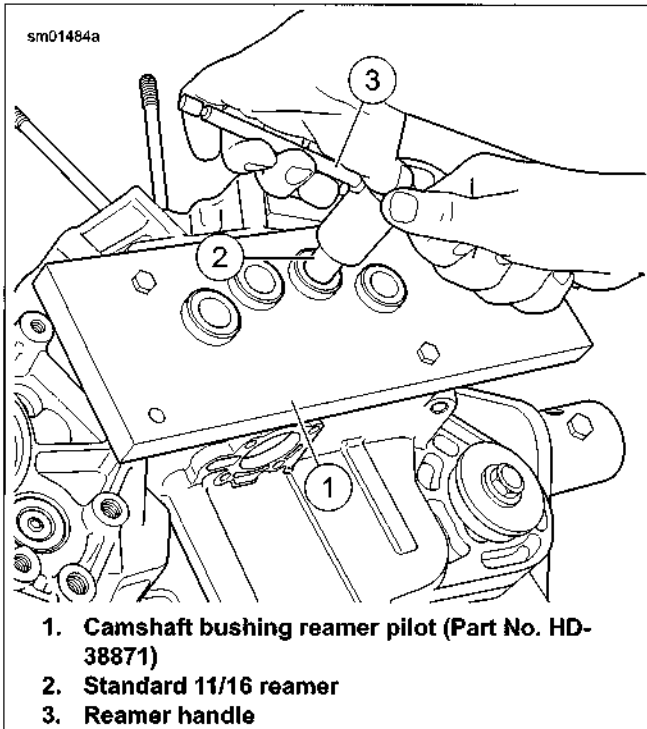

Figure 3-90. Reaming Cam Gear Bushing in Right Crankcase
2. See Figure 3-90. Position CRANKSHAFT BUSHING PLATE PILOT (Part No. HD-38871) onto gearcase side of crankcase. The upper right and lower left indexing holes in pilot must be placed over dowels in crankcase. Insert two bolts (supplied with pilot) through two remaining holes in pilot, and into threaded holes of crankcase. Tighten bolts securely.